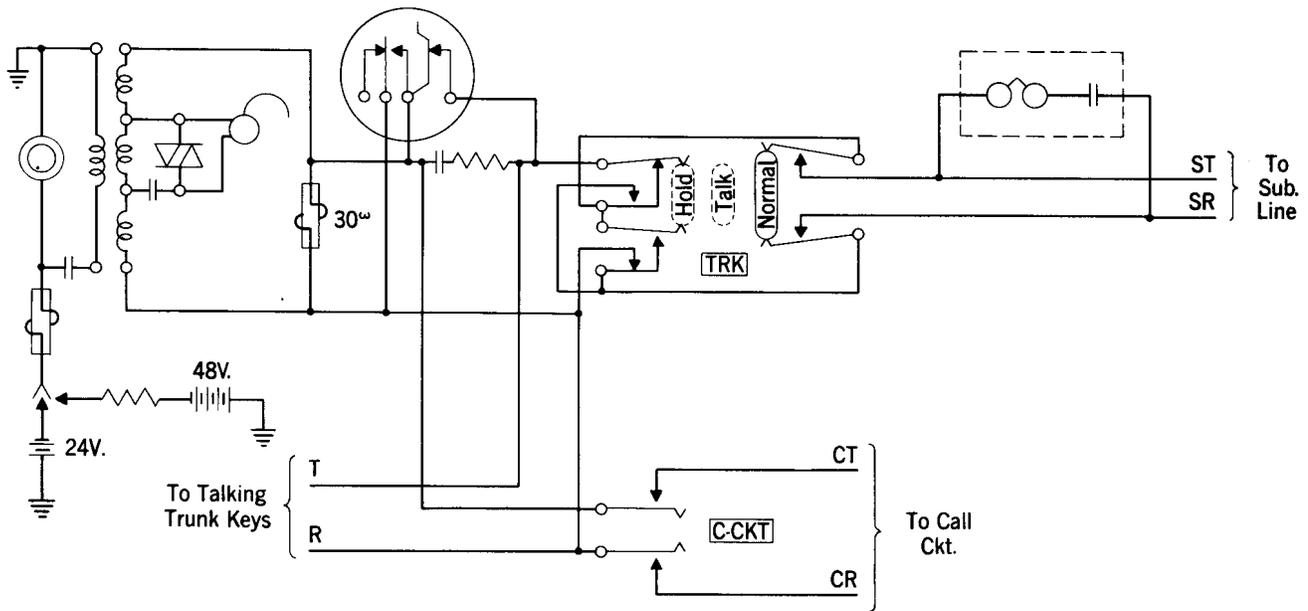

Fig. 3—Telephone, Talking and Call Circuit
**4.01** To answer an incoming call, or to make an outgoing call, operate the TRK key of the test cabinet to the "talk" position to connect the telephone circuit and dial to the talking line. When answering an incoming machine ringing call, operate the TRK key to the "hold" position to trip the ringing and then restore the key to the "talk" position (see Fig. 3). To hold the talking line and release the telephone circuit for use with the test circuit, operate the TRK key to the "hold" position. The call circuit key, C-CKT, is used to talk with the operator.